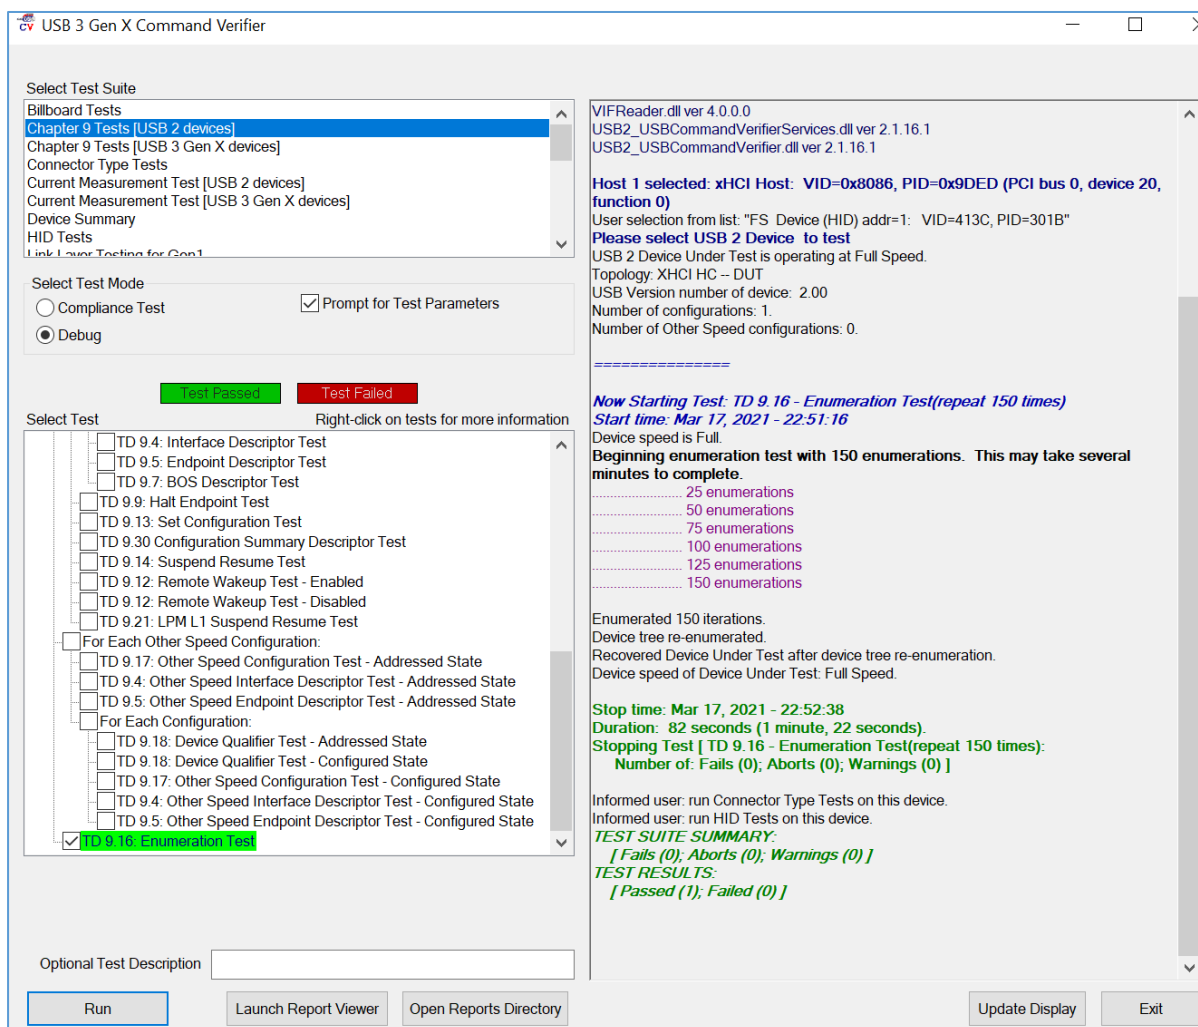

FIGURE 7.15: TEST RESULTS GENERATION IN CV TOOL FOR TD 9.16 ENUMERATION TEST
8. The next pop-up message (Figure 7.15 below) will require the user to enter the number of bytes to be verified in hex for Debug mode and then select “DONE”.
4. The test results will be updated in the CV tool once the test execution is completed (Figure 7.15 below).